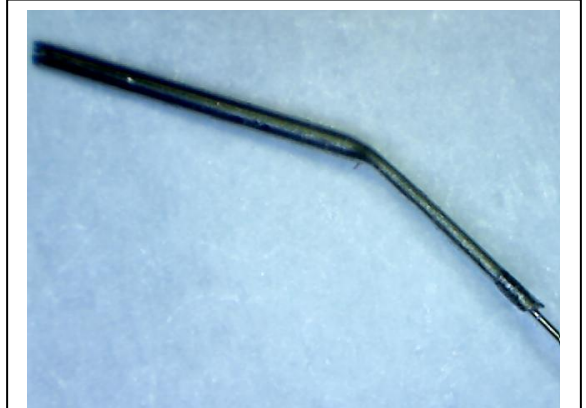

Fig 2: Connector after crimping and bending
- G. Slide the other end of the wire in the 30G connector. The Teflon should barely fit (make it go in > 1mm). Crimp the connector over the bare end (make sure the crimping is on the bare wire, not the Teflon). Using a needle-nose plier and the crimping tool, make a small bend at the tip of the connector (Fig 2). Don't crimp, just bend.